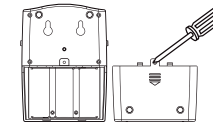

Fig.4
5. Remove the screw from the back of the receiver cover and open the panel. (Fig.4)